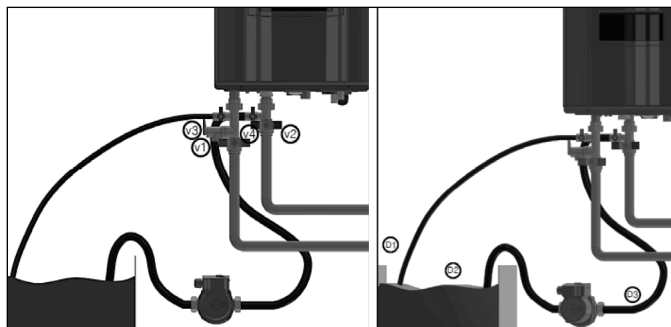

Figure 56 - Flushing the CH Closed Loop Heat Exchanger
3. Close the shutoff valves on both CH supply and CH return lines (V1 and V2). See Figure 56.
4. Connect one hose (D1, Figure 56) to the valve (V3) and place the free end in a bucket. Connect one of the hoses (D3) to the circulation pump outlet and the cold water inlet line to valve V4. Connect the other hose (D2) to the circulation pump inlet and place the free end in the bucket.